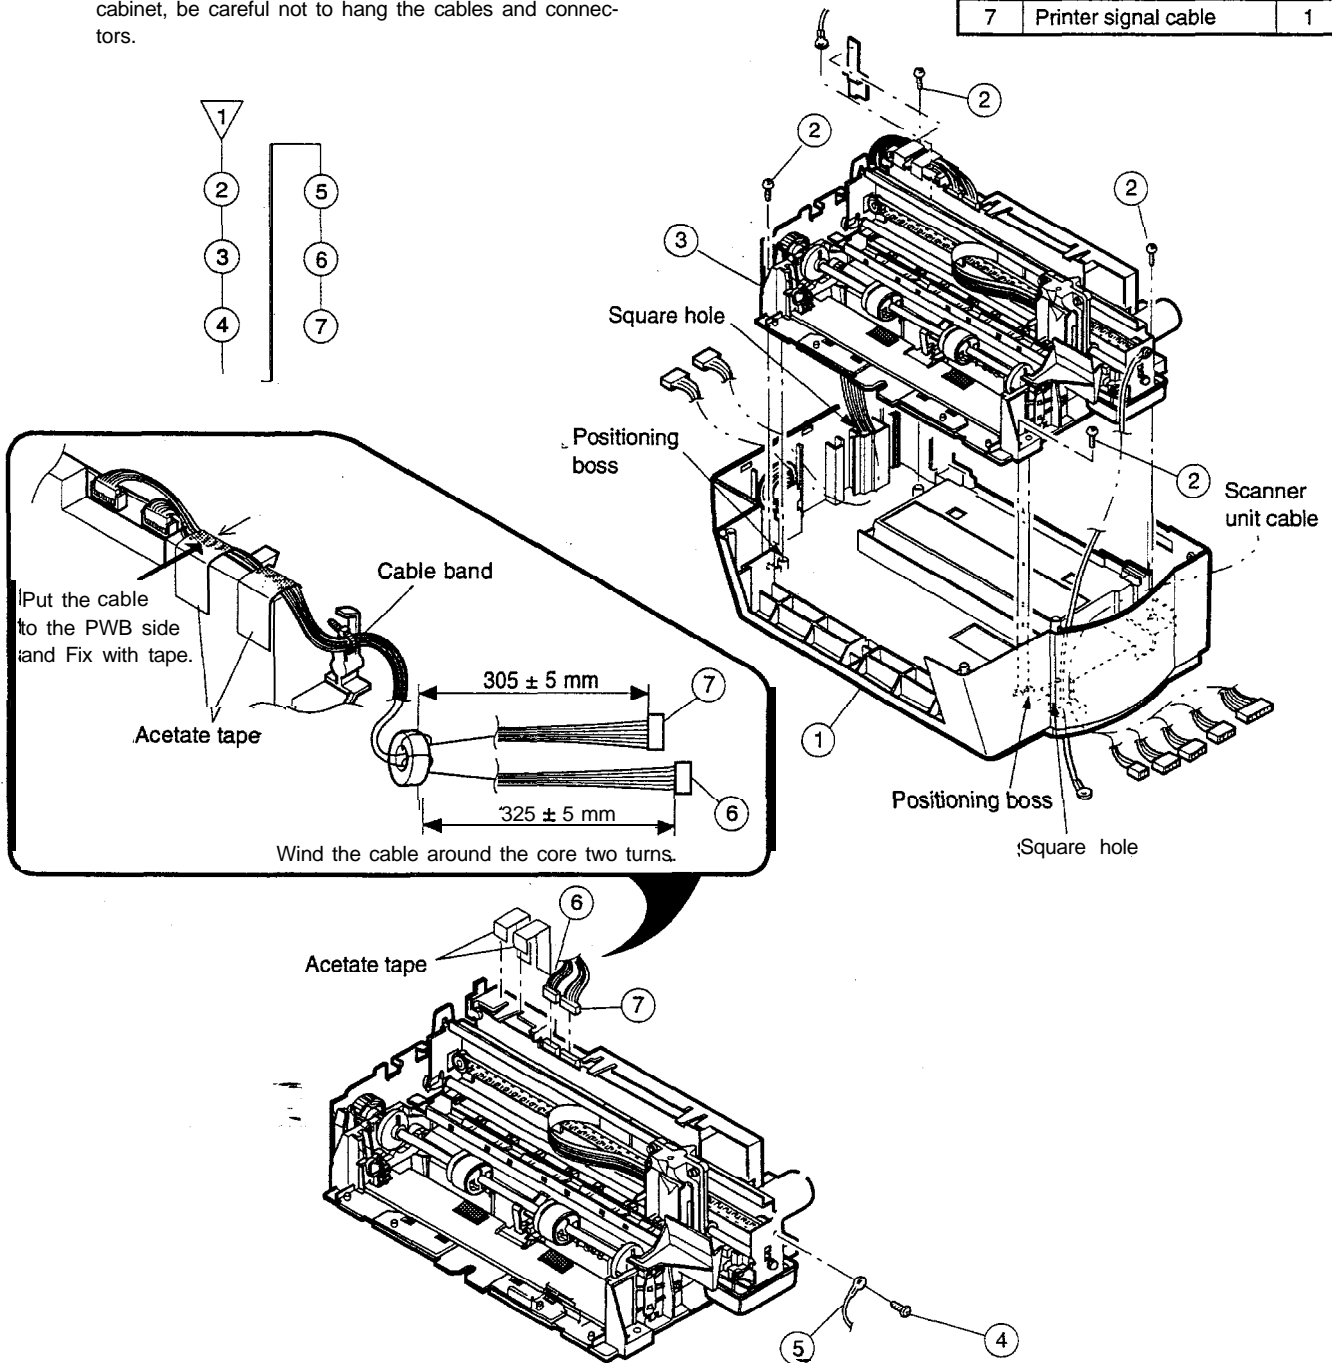

Fig. 7
Parts list (Fig. 7)
1. For wiring of printer power cable ⑥ and printer signal cable ⑦ and the core attaching position, refer to the enlarged view of Fig. 7.
2. Attach printer grounding cable ⑤ at the angle of 45 degrees. (Refer to Fig. 7.)
3. Note for attaching ink jetter unit ③